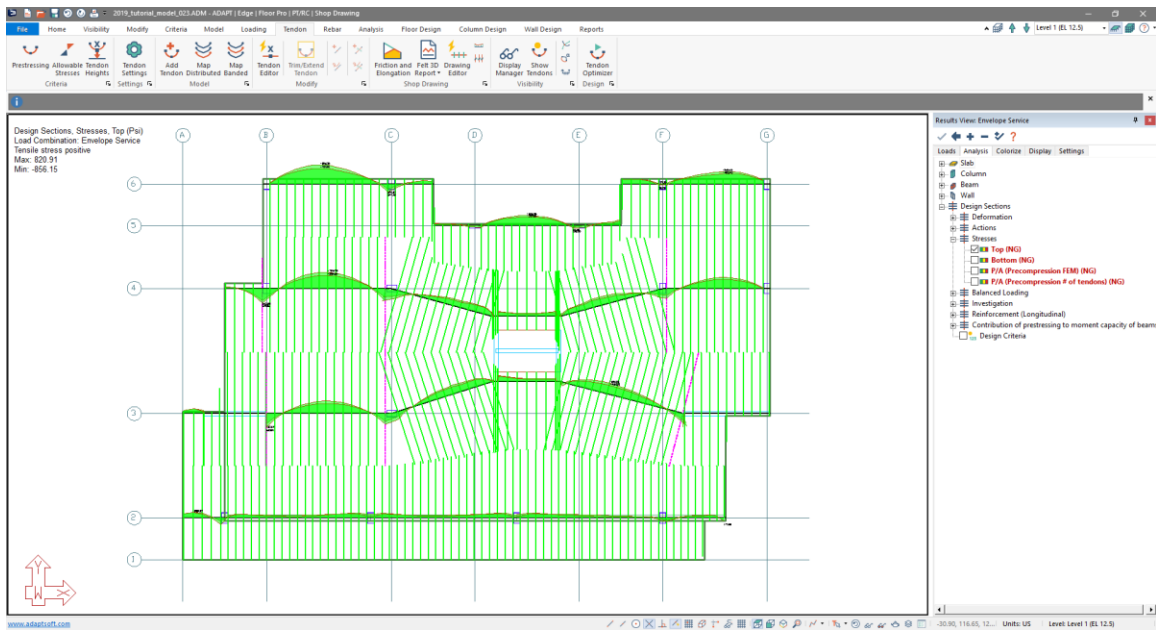

Figure 9-83
- In the *Results Browser Analysis* tab, scroll the tree and find *Design Sections* → *Stresses* → *Top* and check the box to the left. The user should now see on screen the design section stress results for the support lines in the X-direction for top stresses as shown in **Figure 9-83**.